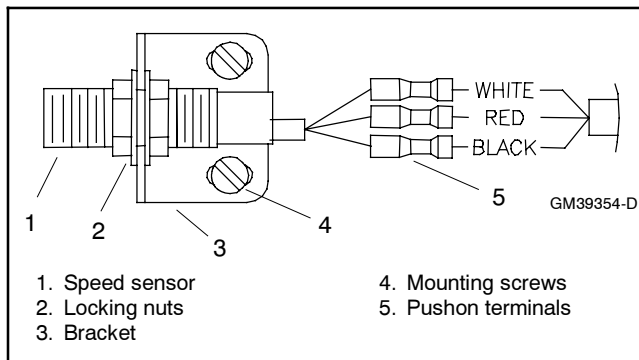
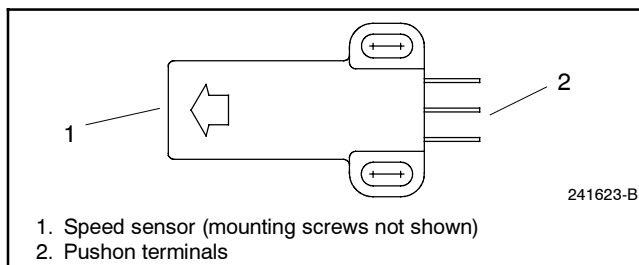

Figure 8-48 Speed Sensor GM30120
Figure 8-49 Speed Sensor 241623 (241927 Kit)
Speed sensors GM30120, 241623, and 241927 are no longer available as service parts, see Figure 8-48 and Figure 8-49. The GM70486 service kit with instructions provides the means to install a replacement speed sensor for the discontinued speed sensor. The service kit works for both permanent magnet generators (PMG) (FR™ II) and wound field (FR™ III) models.
- d. Disconnect the speed sensor wiring at the three pushon terminals. See Figure 8-48 or Figure 8-49.